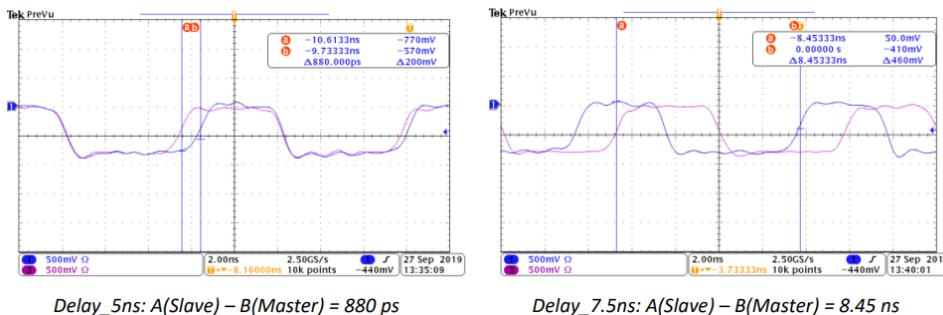

Fig. 6.4: Clock signals of the Master and the Slave at the oscilloscope
13. Check the clock synchronization and phase skew: the clock signals must not jitter between each other and the phase difference between same fronts must be the minimum between the two predefined delays. Otherwise, change the PLL file of the Master and repeat the operations. Typical clock signals on the oscilloscope are shown in **Fig. 6.4**.